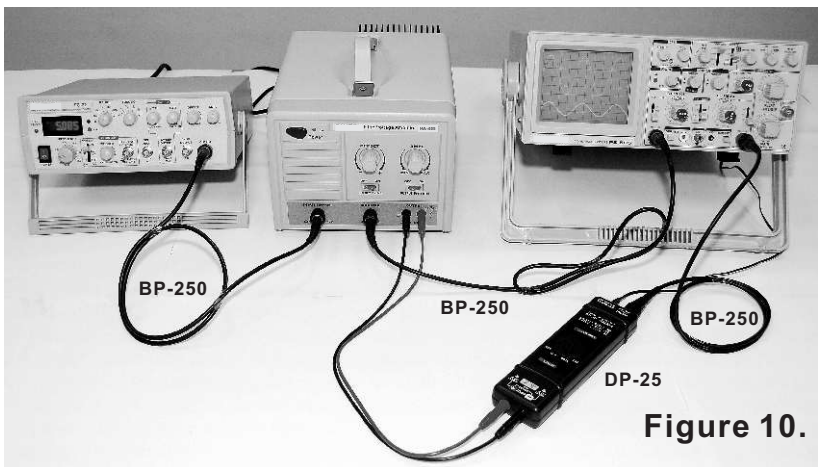

Figure 10.
5.3 Use Function Generator as input, to observe the HA-405 Monitor and Output, and the real output situation from oscilloscope. (Figure 10.)